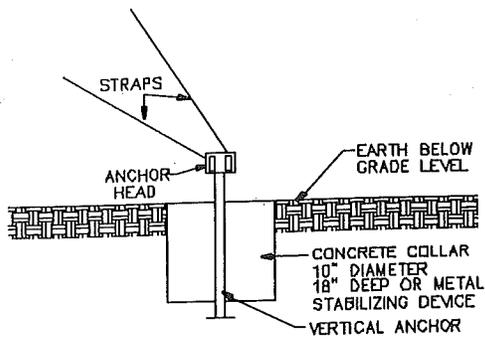

FIGURE 76
3. IF ANCHOR IS INSERTED VERTICALLY A CONCRETE COLLAR OR STABILIZING DEVICE MUST BE USED AT THE GROUND LINE. SEE FIG. 76 & 77
4. EACH OF THE STRAPS AND CONNECTIONS TO THE I-BEAM MUST HAVE AN ULTIMATE STRENGTH OF 4725 LBS. SEE FIG. 76 & 77.
3. IF ANCHOR IS INSERTED VERTICALLY A CONCRETE COLLAR OR STABILIZING DEVICE MUST BE USED AT THE GROUND LINE. SEE FIG. 76 & 77.